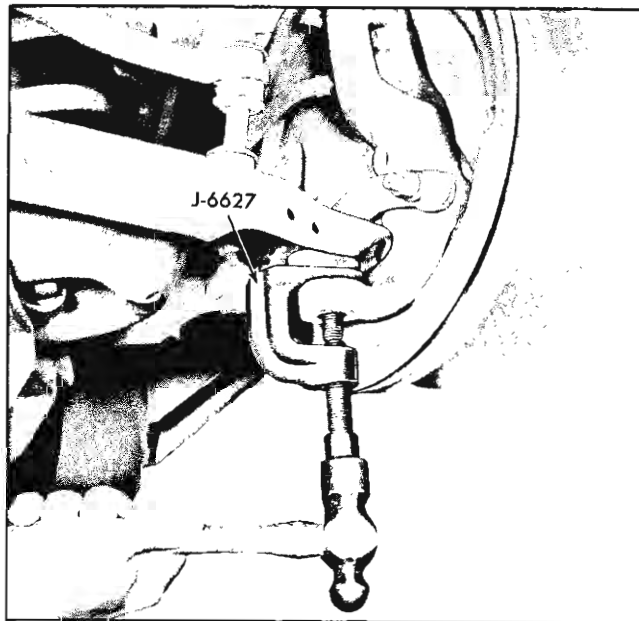

Fig. 3-19 Pressing Lower Ball Stud from Steering Knuckle
**NOTE:** Spring can also be removed by pressing lower control arm ball stud from steering knuckle with tool J-6627 (Fig. 3-19) and swinging outer end of arm down.
2. Remove ball stud from steering knuckle, using tool J-6627 (Fig. 3-19).
2. Press lower control arm ball stud from steering knuckle with tool J-6627 (Fig. 3-19).